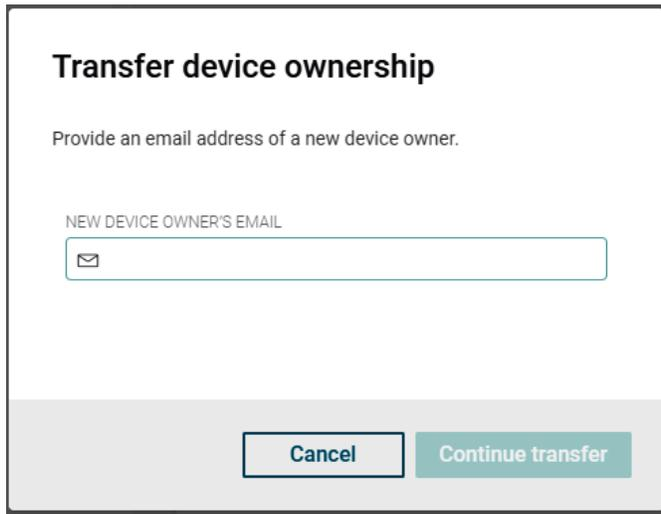

Figure 71. Transferring Device Ownership
5. The “Transfer device ownership” window will appear, type the New Device Owner’s e-mail. Click on “Continue transfer” when filled. See **Figure 71**.